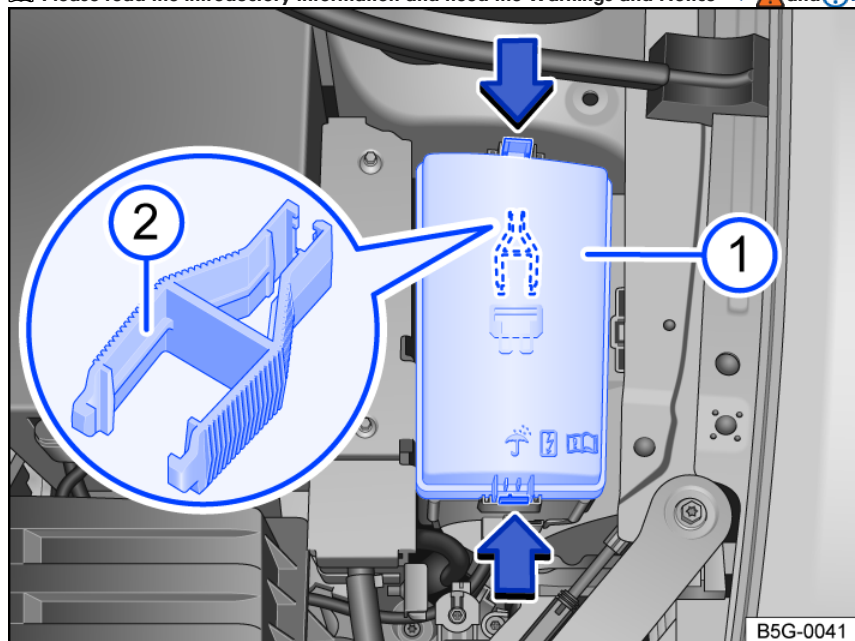

Fig. 178 In the engine/motor compartment: fuse box cover (1) with plastic pliers (2).
- Press the catches in the direction of the arrow fig. 178 to release the fuse box cover fig. 178 (1).
There are plastic pliers for removing fuses on the inside of the fuse box cover In the engine/motor compartment fig. 178 ².